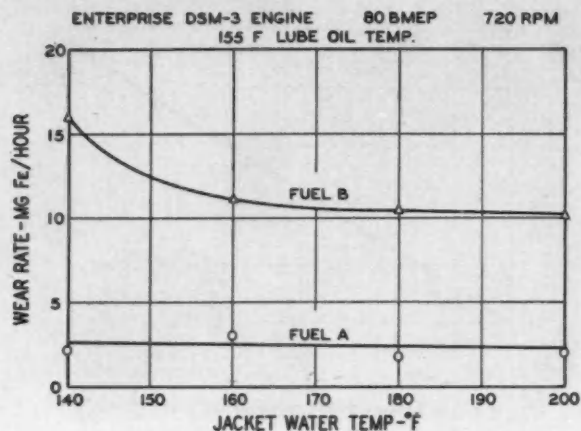

Fig. 2 — Effect of jacket water temperature on wear.
- Wear rate with distillate fuel did not change over a jacket water temperature range of 140–200 F. With residual fuel, wear increased below 160 F (Fig. 2). It may be that the reduced temperatures adversely affected combustion of Fuel B near the cylinder walls considerably more than Fuel A.